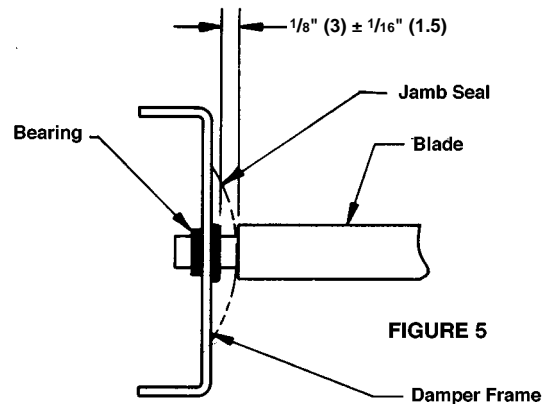

FIGURE 5
9. A clearance of  $1/8"$  (3)  $\pm 1/16"$  (1.5) must be maintained between bearing within frame and blade end. Move blade solidly against bearing on one side and measure clearance at other end of blade. See Figure 5. If jamb seals are present, compress to determine clearance.